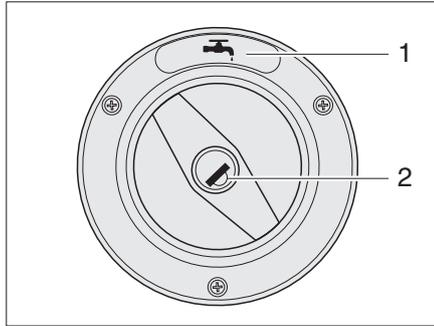
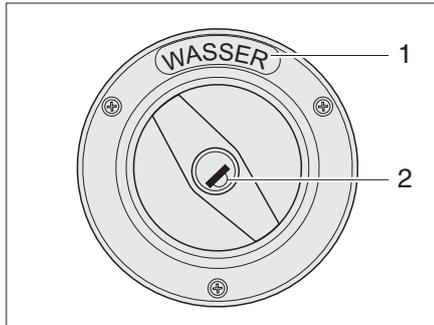

Fig. 15 Cap for the fresh water filler neck (Variant 1)
Fig. 16 Cap for the fresh water filler neck (Variant 2)
The fresh water filler neck is identified by the symbol  (Fig. 15,1) or the word "WASSER" ("WATER") (Fig. 16,1).
- ▶ Insert the key in the locking cylinder (Fig. 15,2 or Fig. 16,2) and turn it in an anticlockwise direction.